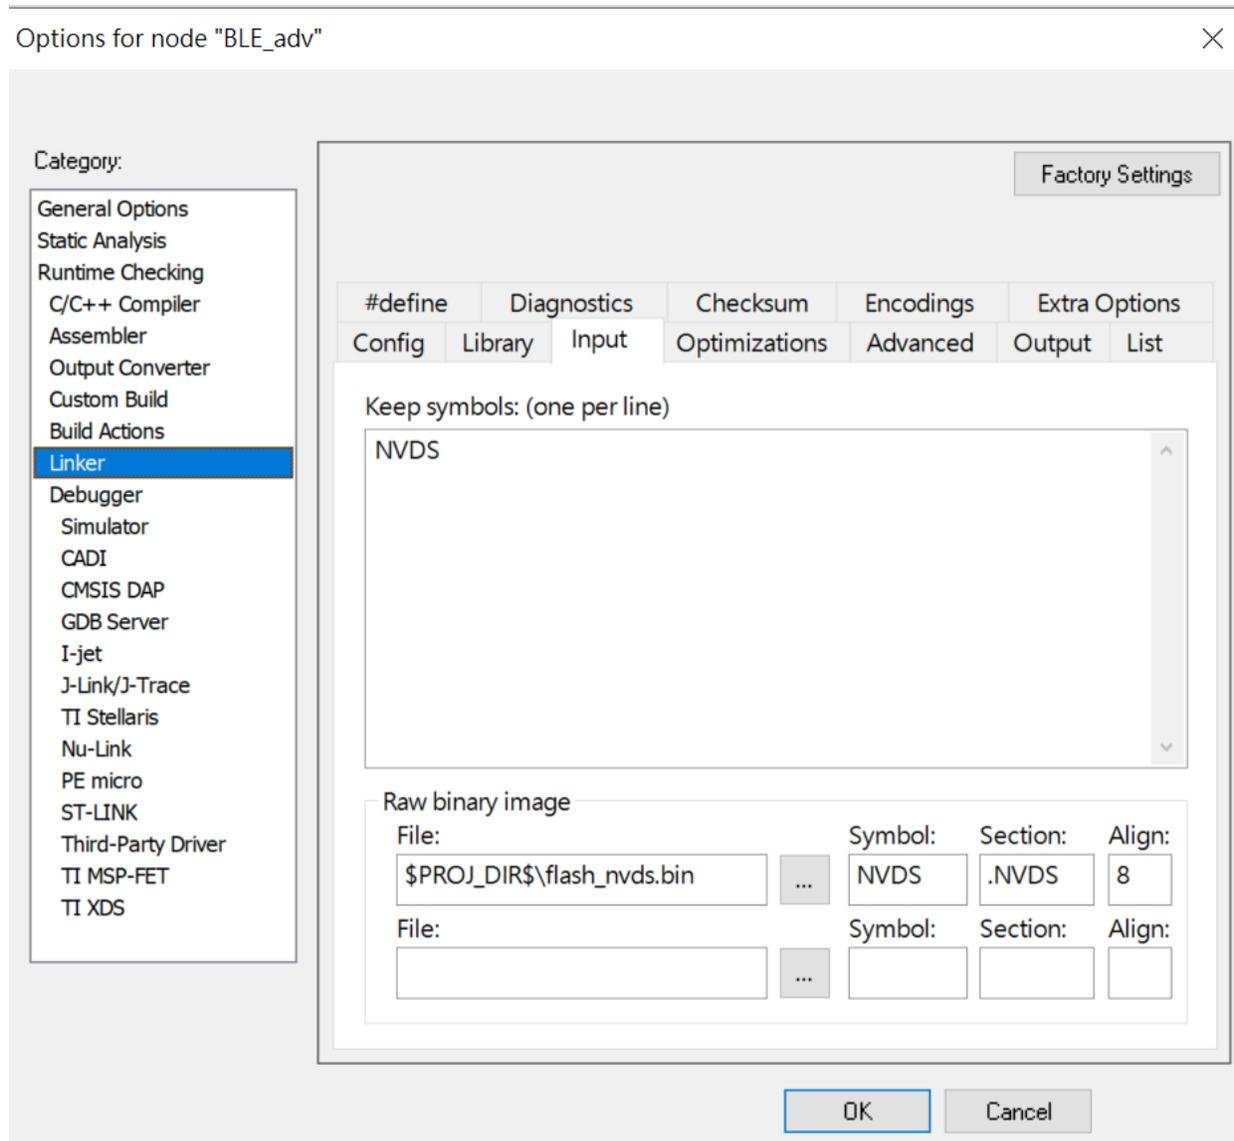

Figure 12 - Program without NVDS (without USE\_MCUBOOT)
- 3) For the Program and Debug image, please refer to Figure 12 for the programming image with NVDS
- 1) To program with NVDS, it needs to add the settings below. See Figure 12.